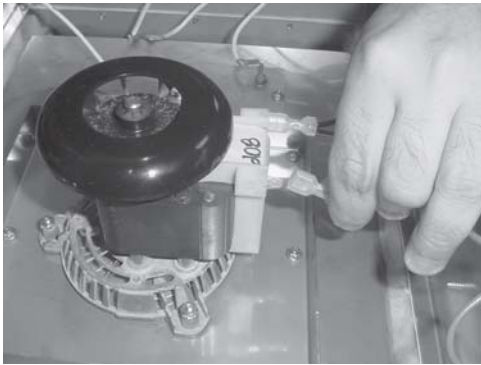

Figure 3-27
2. Unplug wires to blower motor. Figure 3-27.